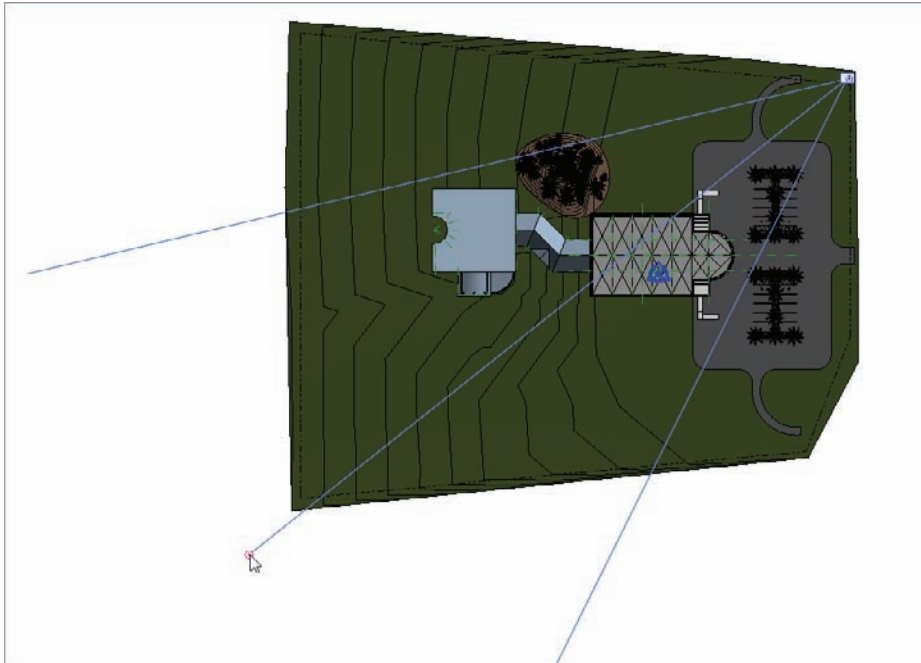

FIGURE 19.8 Create a new camera view
2. Create a camera, as shown in Figure 19.8.